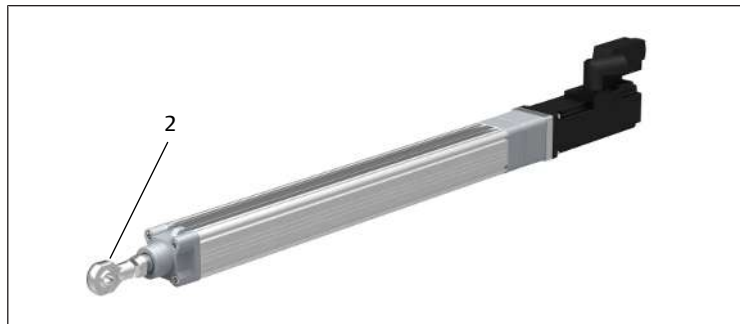

Fig. 8: Mounting the ball eye rod end on the push rod
2. Mount the rod clevis or ball eye rod end (2) on the push rod. See → Fig. 8. Use the wrench flats of the push rod for countering.